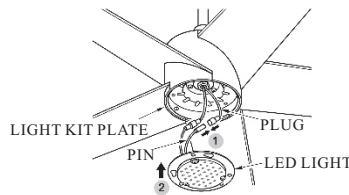

FIG.15
4. Plug together light kit wires from fan to light kit wires from LED light(See fig.15)